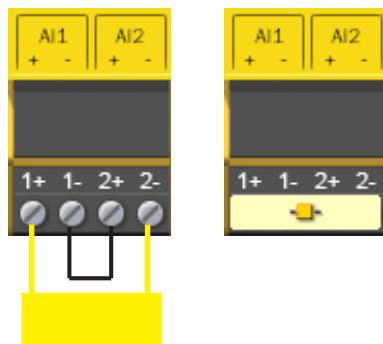

Figure 53: Connection of a safe single-channel analog signal transmitter
If only one individual sensor is used for a process variable, this sensor must be connected in series to both inputs; see figure 53.
- ▶ When using a safe single-channel analog signal transmitter, install a bridge between the connections AI1– and AI2+, see figure 53.